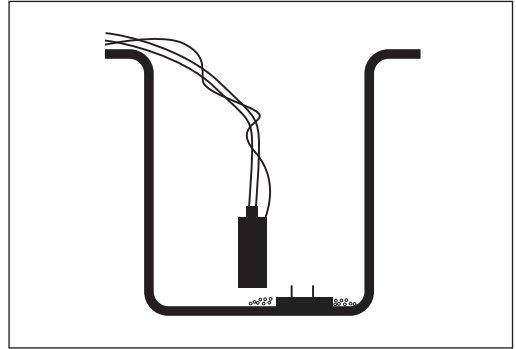
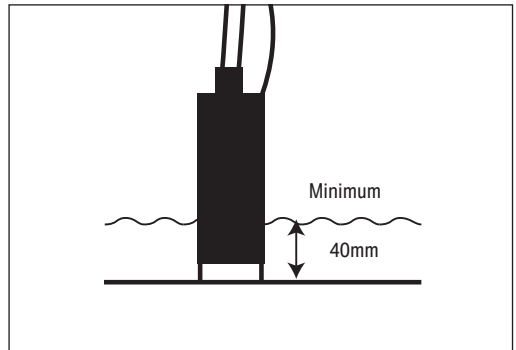

Fig. 1
Fig. 2
- Before connecting the pump to a 12V DC battery, ensure that the **ON/OFF** switch (5) is in the '**OFF**' position.
5.1 Operation - (Fig. 1 - Fig.2)
- Connect the hose (9) to the pump using the hose clips (7) to secure.
- The pump should be used standing vertically in the liquid to be pumped (see Fig. 1).
- If the liquid is clean with no debris the pump can be placed at the bottom of the container and pumping can commence (see Fig.2).